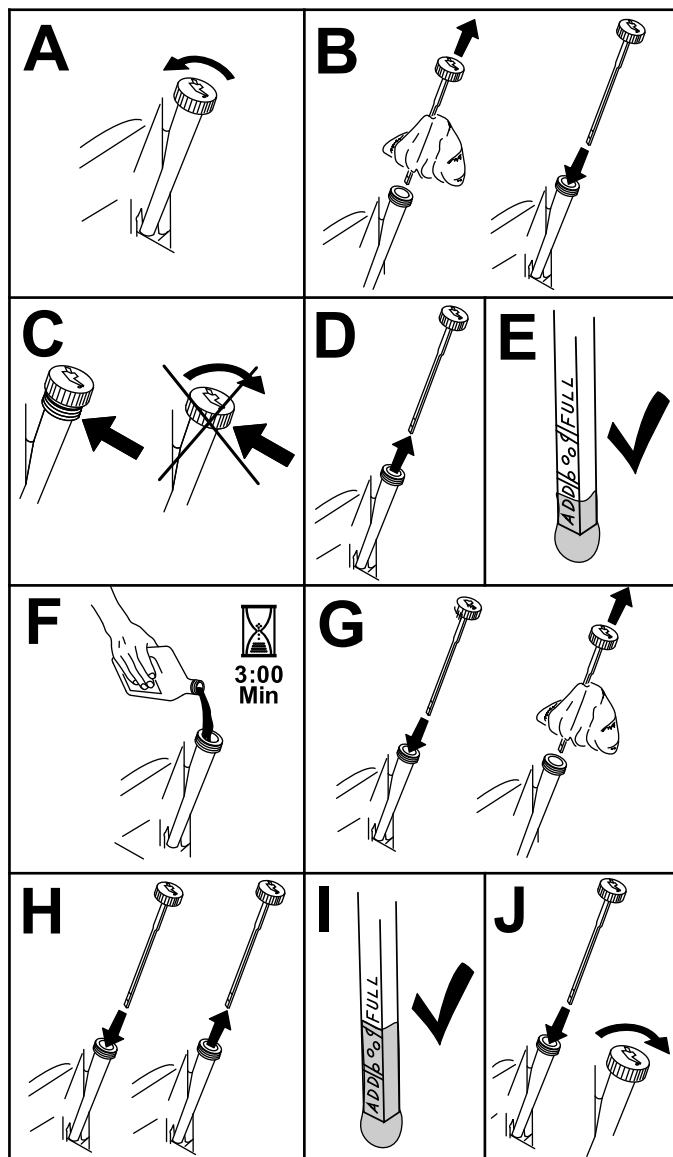

Figure 44
3. Check the engine-oil level as shown in (Figure 44).